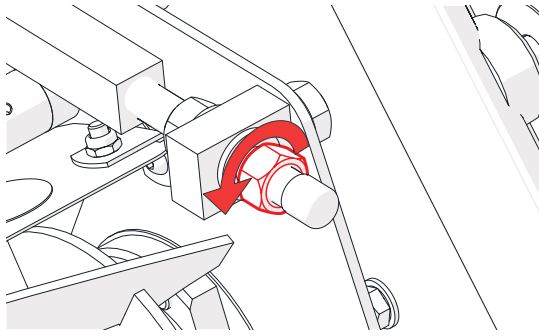

Fig. 12C - Loosen the lock nut
5. Located at each end of a cassette are two shear blade adjusters. On the side being adjusted, loosen the lock nut [19 mm spanner] (Fig. 12C).